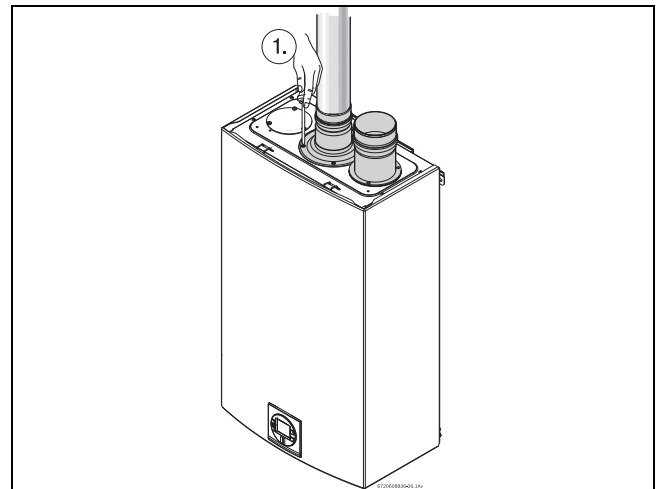

Fig. 20 Exhaust connection
- ▶ Attach the flue gas exhaust accessory to the top of the unit fig. 20 (position 1) using the 4 screws and gasket provided, and fully insert vent pipe into the accessory.